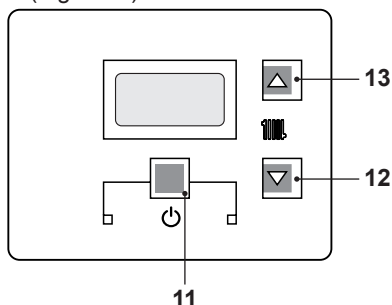
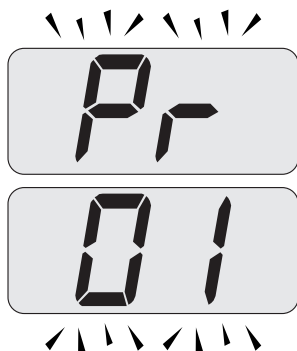

Fig. 9.18
Fig. 9.19
- Enter in "programming mode" by pressing keys 11 - 12 - 13 (Fig. 9.18) for 10 seconds at the same time until the letters **Pr** that alternate with code **01** are displayed on the LCD display, indicating that "parameter 01" (Fig. 9.19) has been activated.
- Press keys 12 and 13 (Fig. 9.18) at the
- By pressing 13 (Fig. 9.18) it is possible to change power in chimney sweep mode: with the letters **hP** on the LCD display which alternate between the heated water temperature (i.e. **32**), we are in the "chimney sweep function" at the minimum power during heating (Fig. 9.21).
- Press keys 11 - 12 - 13 (Fig. 9.18) at the same time again to exit the "chimney sweep mode" and return to the previously set boiler status (Fig. 9.24).